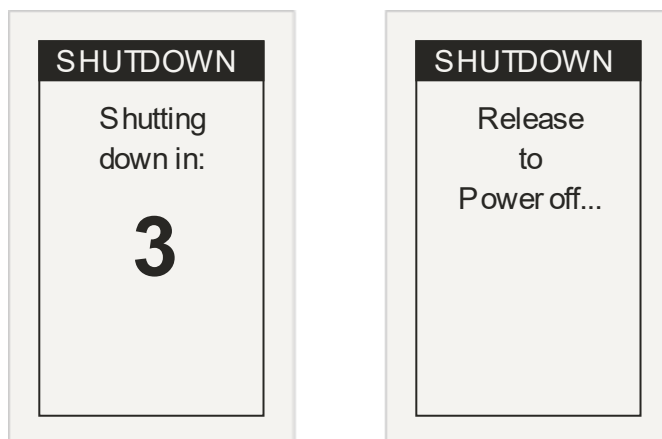

Figure 7 - The Shutdown process
6. The unit can be turned off, by pressing and holding the *Power* button. After a short while, the display will show the *Shutdown* page and count down from three to one, after which it will prompt the user to release the button to turn the unit off (see *Figure 7*). Release the button, and the unit will power down.
When the *Power* button is held for a few seconds, the Shutdown page is displayed. The number shown will count down from three after which it will ask the user to release the button to turn the unit off. If the button is released at any point during this time, the unit will not power off. This is to prevent the unit being turned off by accident. *Figure 7* below shows examples of the first and last screens of this process.